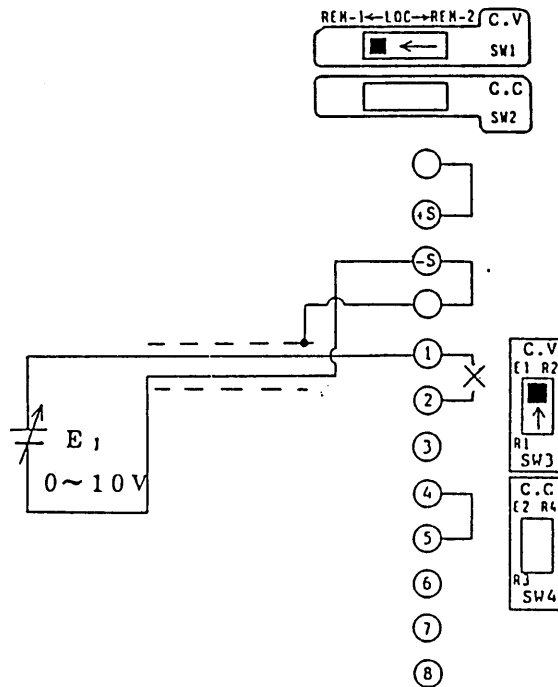

Figure 4-4
- (1) Turn off the POWER switch.
- (2) Disconnect the jumper from between terminals ① and ② of the rear terminal block.
- (3) Throw the SW1 switch on the rear panel to REM-1.
- (4) Throw the SW3 switch on the rear panel to E1.
- (5) Connect the remote control voltage signal (E1) to between terminals ⑤ and ①, with terminal ① for the positive polarity line.
- (6) Turn on the POWER switch. (Turn on the OUTPUT switch.)
- (7) Adjust offset(at zero volts)with the V.os control of the service panel.
- (8) Regarding the switches for which no settings are specified in Figure 4-4, set them to the standard states as shown in Figure 2-23 (See Section 2.4.) or to appropriate states for respective modes (See Sections 4.1 thorough 4.11.).